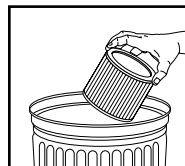

FIGURE 17
24. To clean cartridge filter shake or brush off excess dirt. **FIGURE 17.**